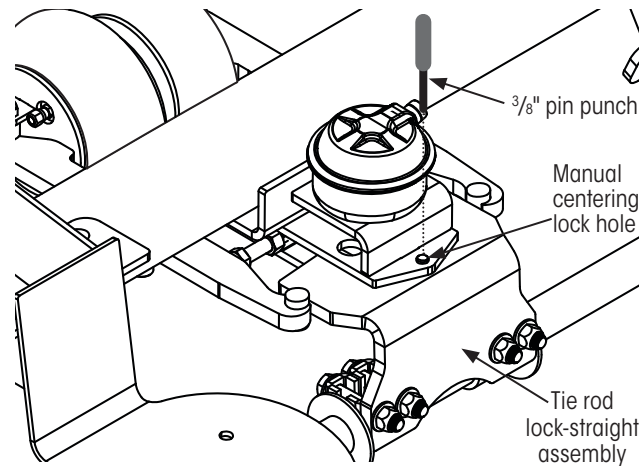

Figure 6: Locking tie rod to center position
4. With tires raised, **insert** a 3/8 inch pin punch (or equivalent) into centering lock hole, as shown in Figure 6.
3. **Manually lock** the lock-straight assembly with a $\frac{3}{8}$ inch pin punch (or equivalent) as shown in Figure 6 on page 8.